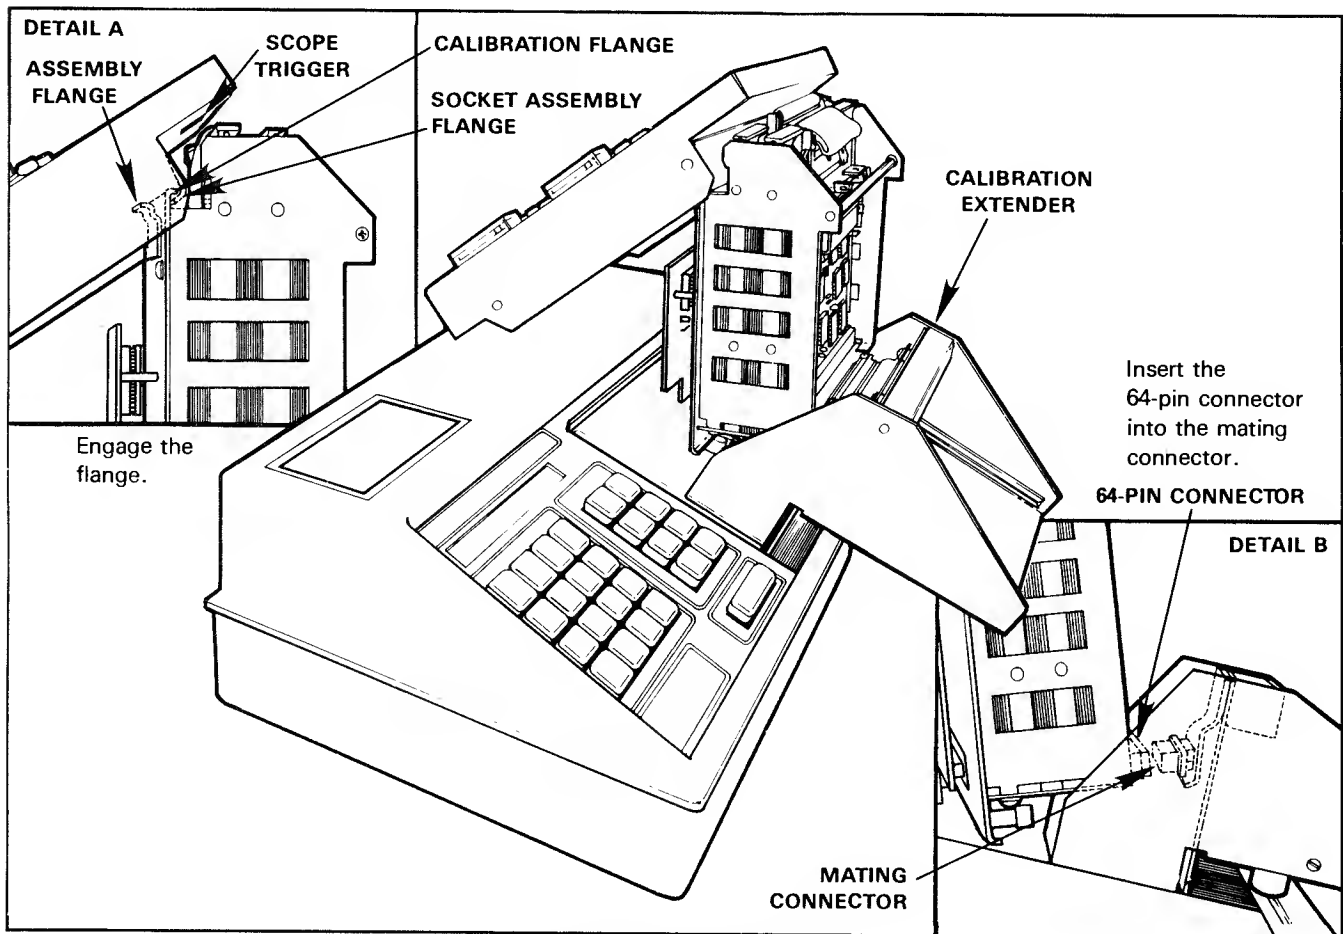

Figure 4-5. Calibration Setup
5. Insert the 64-pin connector of the card cage into the mating connector on the calibration extender (figure 4-5, detail B).
6. Lean the top portion of the UniPak™ against its bottom portion at a 45-degree angle (see figure 4-5).
Be sure the socket assembly flange locks into the card cage flange (see figure 4-5, detail A).